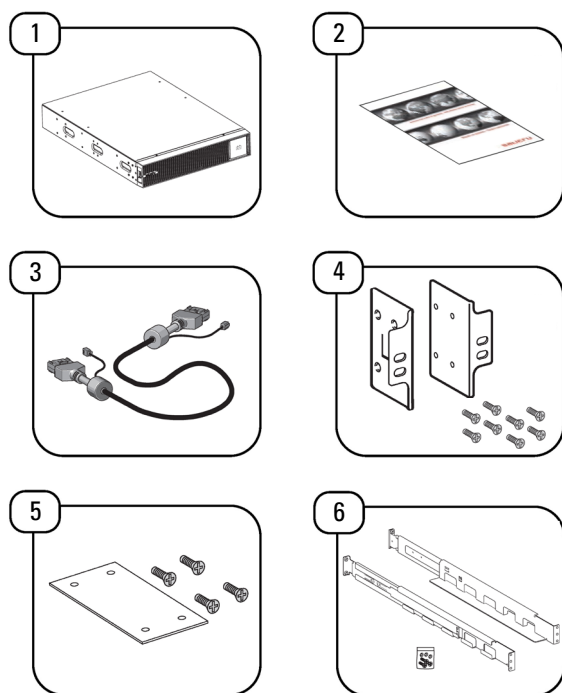

Fig. 11. Battery module packaging content (EBM).
Connect the battery modules in series using the cables with a built-in RJ45 (item 4 Fig. 11), as shown in the following figure:
Use of the supplied metal plates (item 5 in Fig. 11) to join the different EBM's to the UPS in case of installation in tower format, as shown below: